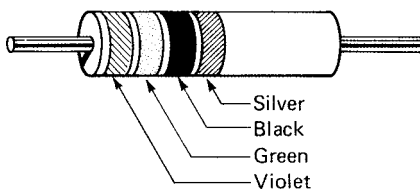

Figure 3-5 A 75-ohm resistor.
The violet (7), green (5), and red (2) indicate that the resistor has a value of 7500 ohms. The gold band indicates it has a value of  $7500 \pm 5\%$ . Five percent of 7500 ohms is 375 ohms. That gives the 7500-ohm resistor a tolerance range of  $7500 + 375$  and  $7500 - 375$ . The results are 7875 ohms and 7125 ohms. The resistor can read anywhere between 7125 and 7875 and still be called a 7500-ohm resistor. Sometimes you may find a resistor such as shown in Fig. 3-5. The resistance value is not 750 ohms, but 75 instead. The third band specifies the number of zeros. Since black is zero, these are no zeros after the first two digits. Thus, the black adds nothing and the 75 stands alone. The silver tolerance on the resistor indicates that it has a plus or minus value of 7.5 ohms (75 times 0.10 produces 7.5 ohms). The 7.5 ohms has to be added to and subtracted from 75 to produce the tolerance range of the resistor. So, 75 plus 7.5 equals 82.5 ohms, and 75 minus 7.5 equals 67.5 ohms. The resistor has a tolerance range of 67.5 to 82.5 ohms.